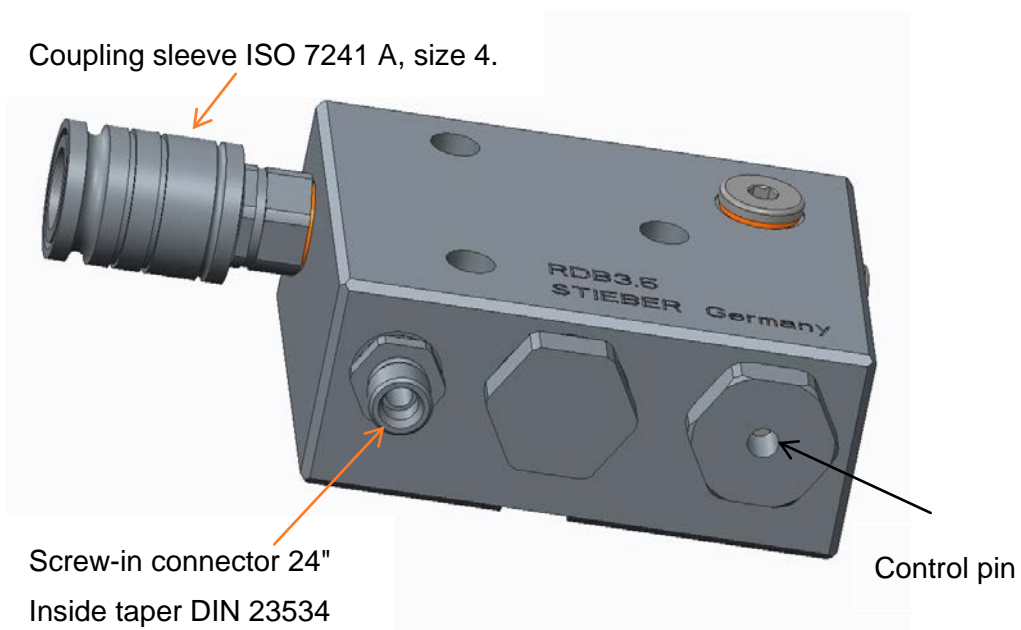

Fig. 3 Hydraulic block
- The hydraulic block from Stieber (see Fig. 3) must be used if a hand pump is used. This limits the pressure and makes it possible to use a quick connector for the hand pump